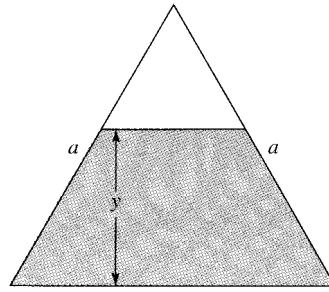

Fig. P10.25
**10.25** The equilateral-triangle in Fig. P10.25 has constant slope and Manning factor  $n$ . Find  $Q_{\max}$  and  $V_{\max}$ . Then, by analogy with Fig. 10.6b, plot the ratios  $Q/Q_{\max}$  and  $V/V_{\max}$  as a function of  $y/a$  for the range  $0 < y/a < 0.866$ .